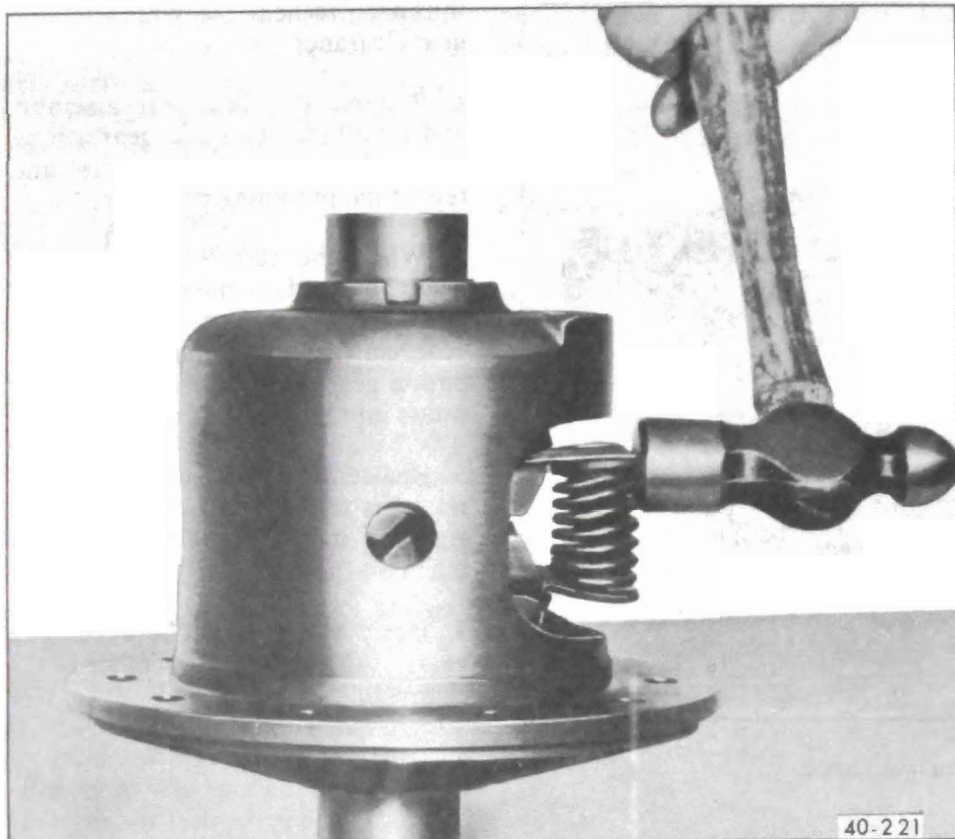

Figure 40-208 - Installing Preload Springs and Retainers
8. Tap spring pack further into position and remove 1/4 inch bolts and nuts. Then complete the installation. See Figure 40-208.